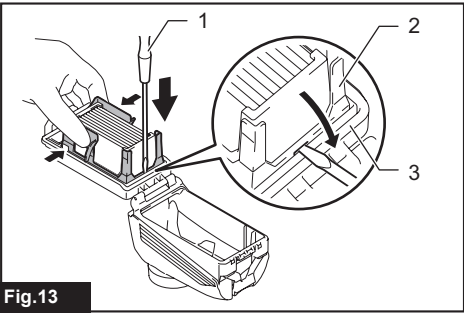

Fig.13
► Fig.13: 1. Flat-blade screwdriver 2. Filter case